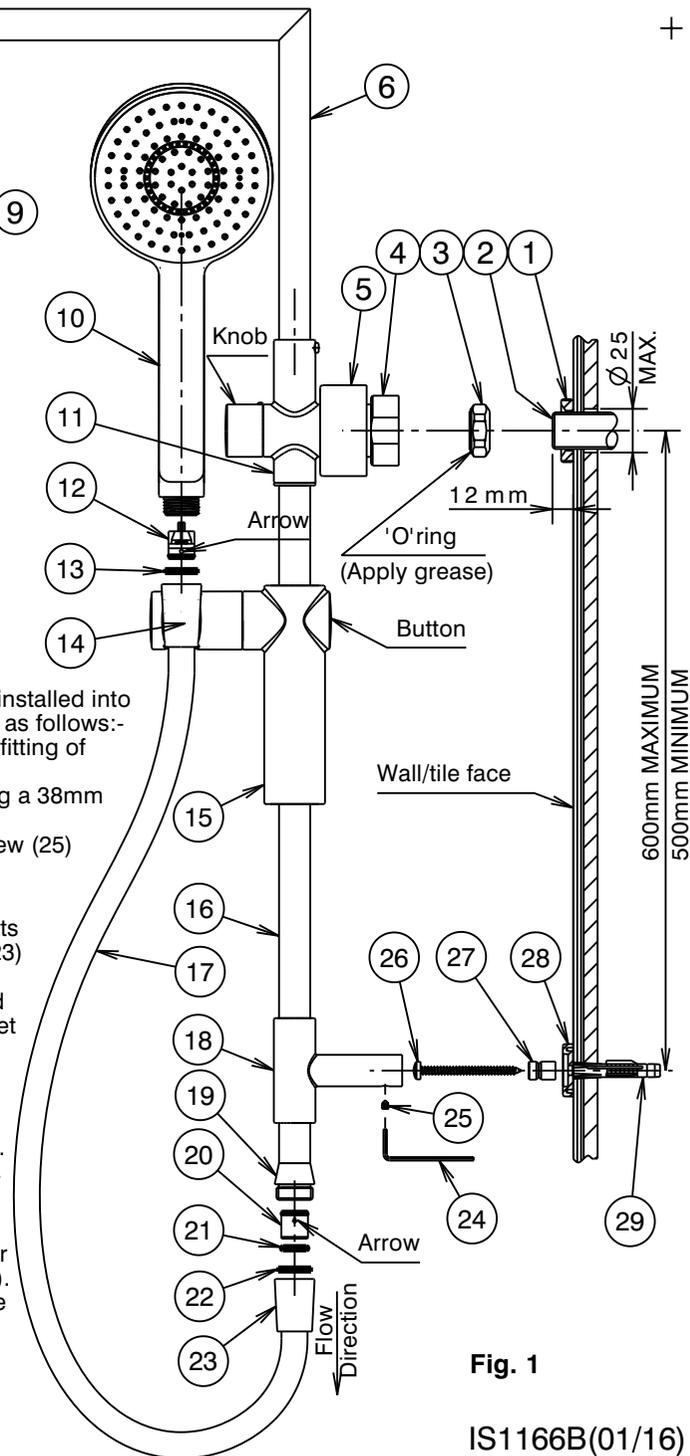

Fig. 1
Installation (Fig.1)
- 2) Place retaining ring (1) over threaded nipple (2) ensuring larger flat face is against the wall surface. Screw adaptor (3) onto threaded nipple (2) with 'O'ring facing you & tighten firmly against the retaining ring (1). **DO NOT OVERTIGHTEN.** **Note:** Threaded nipple (2) must not protrude from adaptor (3) after it is tightened. Apply a smear of grease to the 'O'Ring to assist with assembly.
- 3) Mark the position for the shower rail mounting base (18) at a suitable distance from the threaded nipple (2). (Fig 1.)
- ii) Insert small end of wall plug (29) into drilled hole and tap until flush with surface.
- 6) Loosen screw (25) using a 2mm allen key (24) & remove mounting components from bracket (18). Pass the screw (26) through the hole in the spigot (27) & base (28) as shown. Assemble screw (26) into wall plug (29) & tighten until base (28) is mounted securely against the wall/tile face.